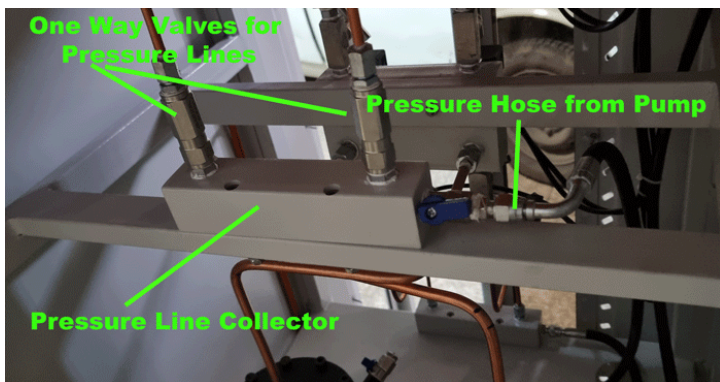

Fig6- Pressure line block
- 12- Check if check valves(one way valves) are not blocked (Fig6)
18- If pressure in one line going up then getting back down it has 3 main reason: one way valve on the pressure line block(Fig6), drain needle valves are open or you have leakage in the sample piece assembly.